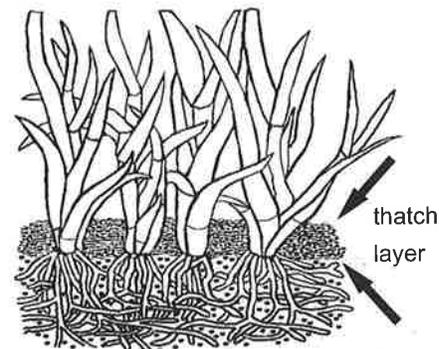

Figure 2-3. Thatch more than 1/2-inch thick can keep water from reaching the soil and roots, reduce pesticide effectiveness, and create shelter for pests.
**Thatch** is the layer of living and dead plant stems, leaves, and roots that develops between the soil surface and green vegetation (Figure 2-3). Grass clippings are not a component of thatch. Although a thin thatch layer is good for the soil, a thatch layer more than 1/2-inch thick can form a tight mat that keeps water and air from reaching the soil. It may also prevent pesticides from getting to the soil where they are needed to control insects and nematodes. To check thatch, cut a small, pie-shaped cross section in the turf and measure thatch thickness.